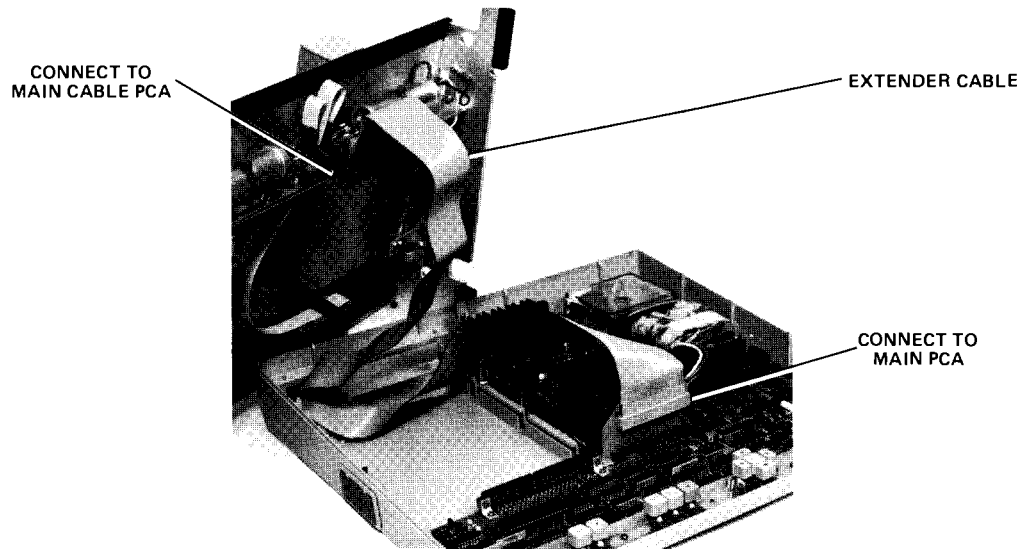

Figure 6-12. Extender Cable Installation
- c. Connect extender cable to main PCA and main cable PCA connectors. (See Figure 6-12.)